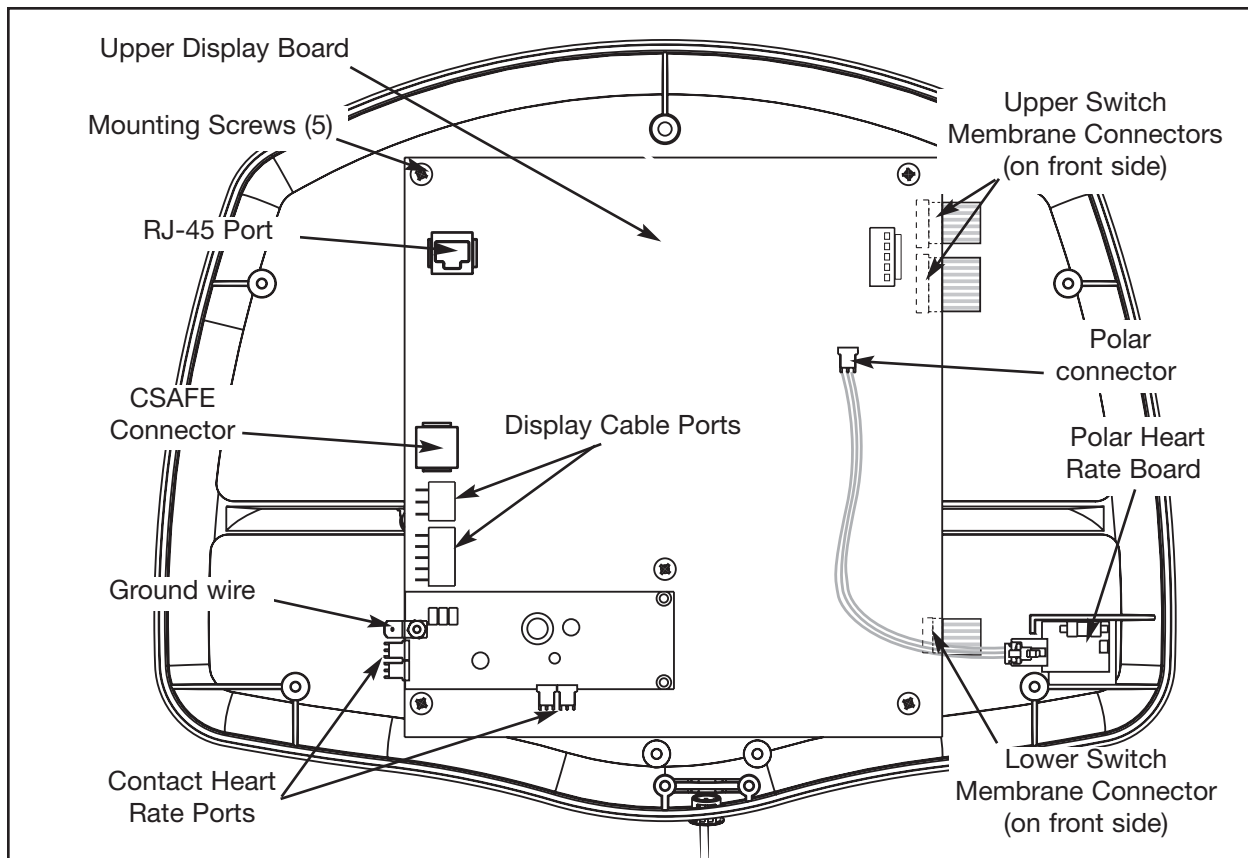

Figure 28
- C. Gently pull the console front forward and disconnect these cables from the display board: the display cables; the contact heart rate cables; ground wire and the polar heartrate cable. See Figure 28.
- A. Connect these cables into the display board: the display cable; the two upper switch overlay connectors; the lower switch overlay connector; the contact heart rate cable; ground wire and the polar heartrate cable. See Figure 28.
- C. Gently pull the console front forward and disconnect these cables from the display board: the display cable; the contact heart rate cable; ground wire and the polar heartrate cable. See Figure 28.
- A. Connect these cables into the display board: the display cable; the two upper switch membrane connectors; the lower switch membrane connector; the contact heart rate cable and the polar heartrate cable. See Figure 28.